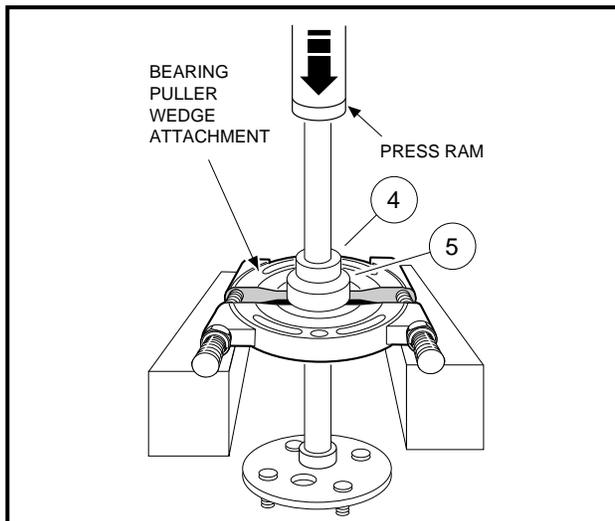

Figure 16-6 Bearing and Collar
3. Press bearing (5) and collar (4) off together (Figure 16-6, Page 16-5).